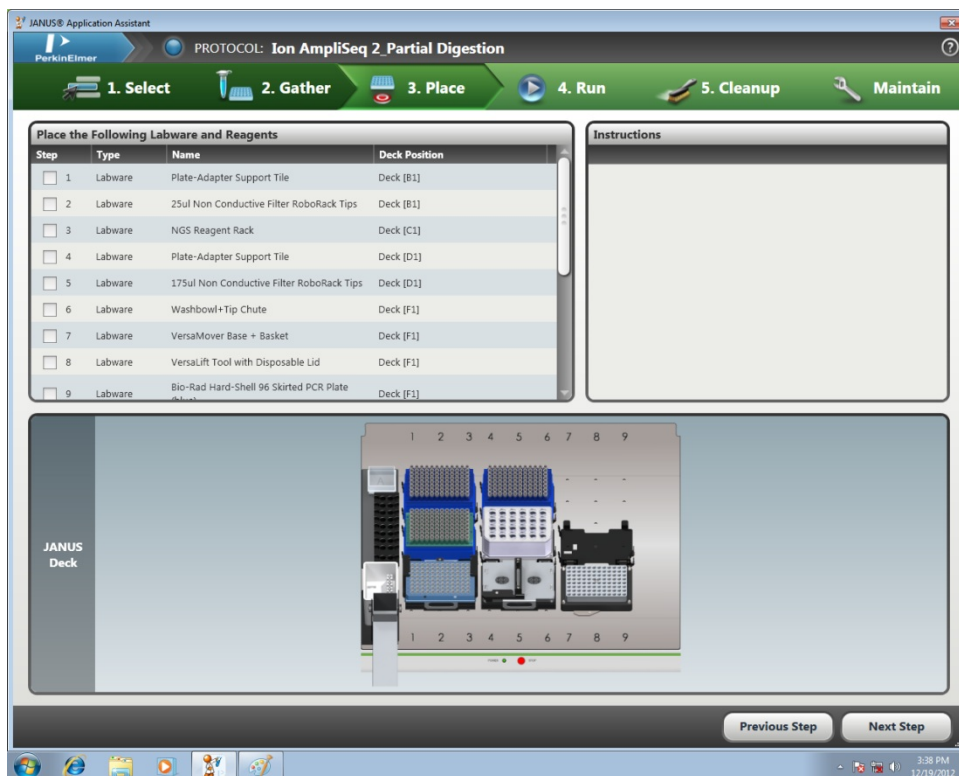

Figure 18. Place page of NGS Express software showing the location of the sample plate on the deck for Ion AmpliSeq Partial Digestion protocol.
- b. Follow the instructions in the Place tab of the software for placing support tiles, tips, and plates on the deck. Note that your sample plate must be in the basket in the front left position on the deck, as shown in Figure 18.